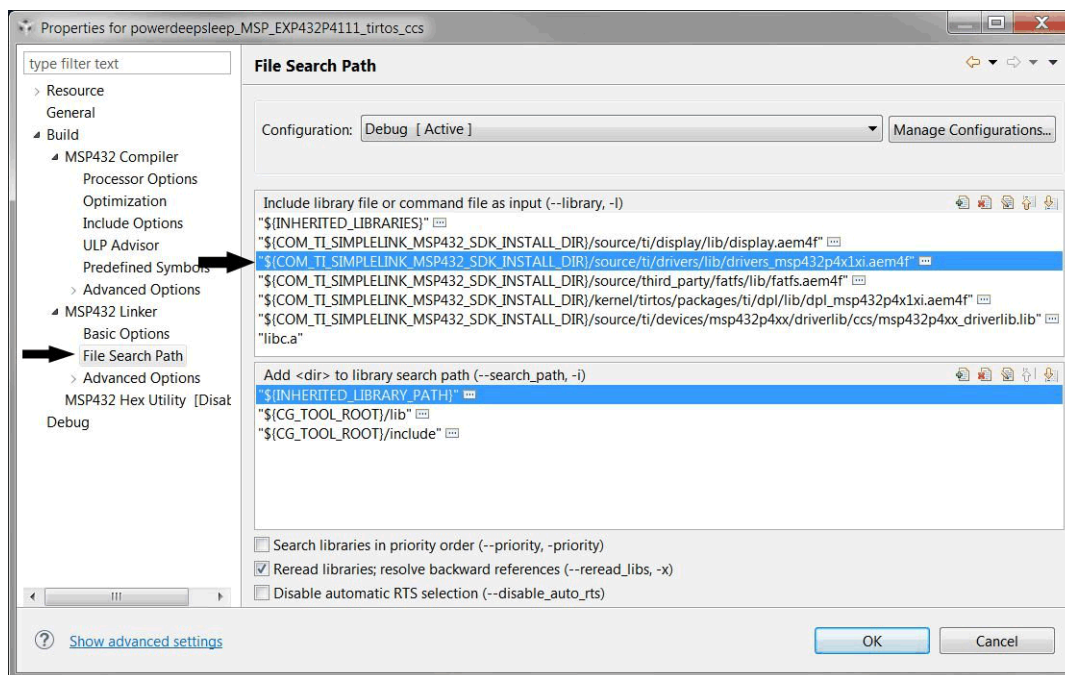

Figure 3. High-Temperature Power Management Libraries
3. The high-temperature-specific power management libraries are specified in the File Search path. The particular driver in question is *drivers\_msp432p4x1xi.aem4f* (see Figure 3).